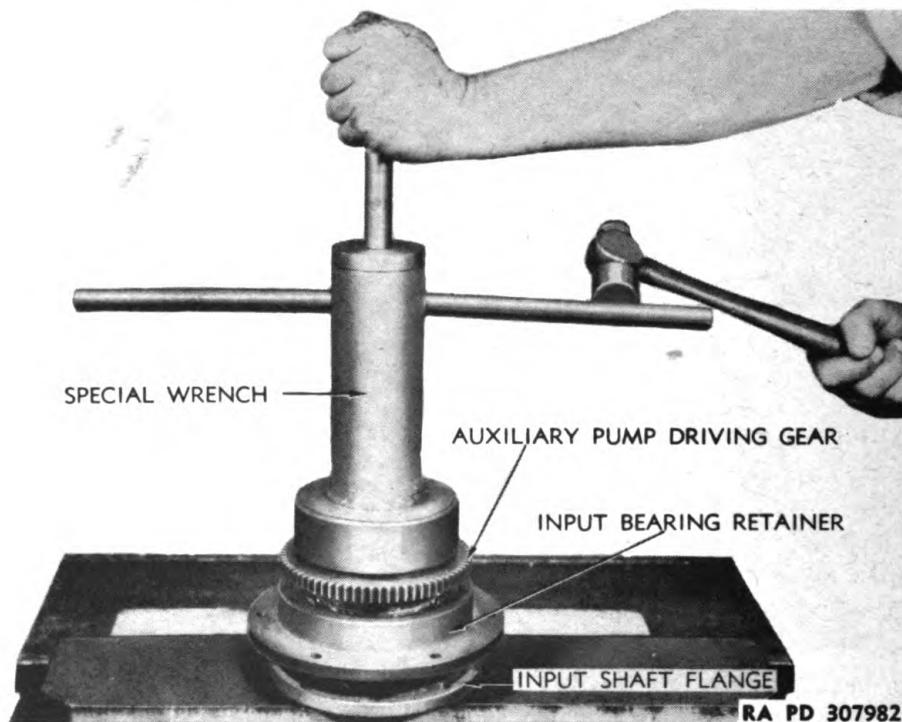

Figure 174 — Assembling Input Shaft Assembly,
b. Assemble Input Shaft Assembly. Set input shaft on end over pins in stand as shown in figure 164. Insert input shaft through input bearing retainer and bearing and press retainer and bearing into position shown in figure 174. Tap key into slot in shaft above bearing, and slip pump driving gear (flat side up) onto shaft and key. Place bearing nut locking washer on shaft next (prongs up), then install lock nut and tighten securely with special wrench (41-W-3739-400) and hammer (fig. 174). Bend lug of locking washer into slot in nut.